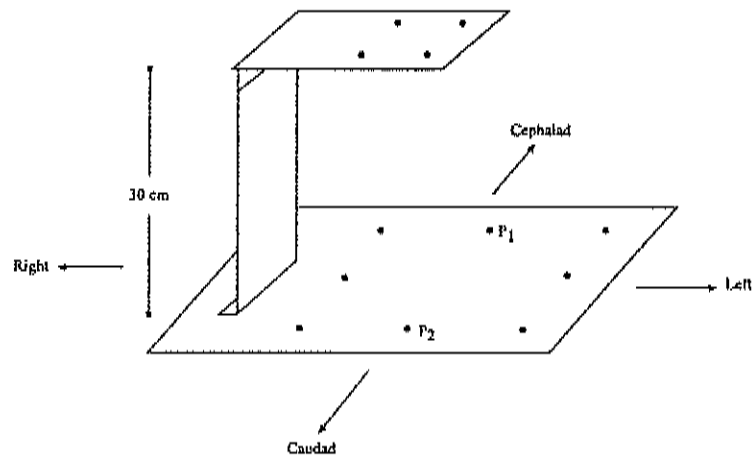

Figure 8.3 - Perspective View of Fiducial Jig (not to scale)
PROWESS requires the use of a special apparatus called a fiducial jig during stereoradiography as described in Appendix B. This fiducial jig contains lead markers called "fiducial points," which are embedded in two parallel plastic plates, one beneath the patient and the other over the patient. See Figures 8.3 and 8.4.
- 2) Place the patient on the table with the jig positioned as in Figure 8.3. The arm of the jig should be on the patient's right side. A magnification ring is not necessary.
- 4) Take the first exposure with the central ray passing through point P₁, shown in Figure 8.3. Radiography with 80-90 kV should have good contrast.
- 5) Shift 20 cm along the long axis of the patient and take the second exposure with the central ray passing through point P₂, shown in Figure 8.3.